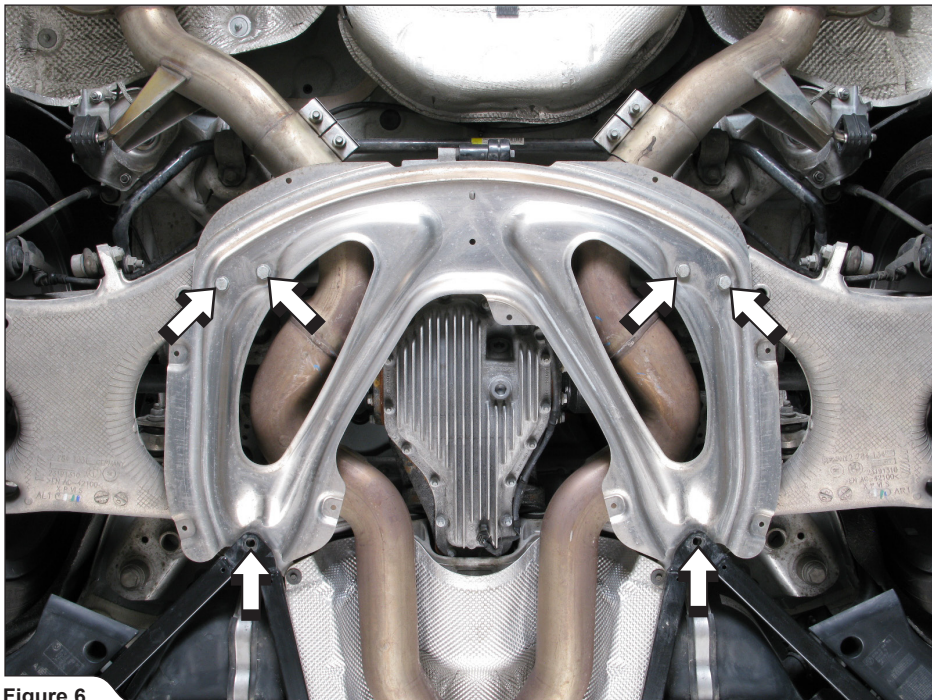

Figure 6
4. Unscrew all marked bolts and carefully remove the differential aluminium protection off the vehicle (Figure 6).